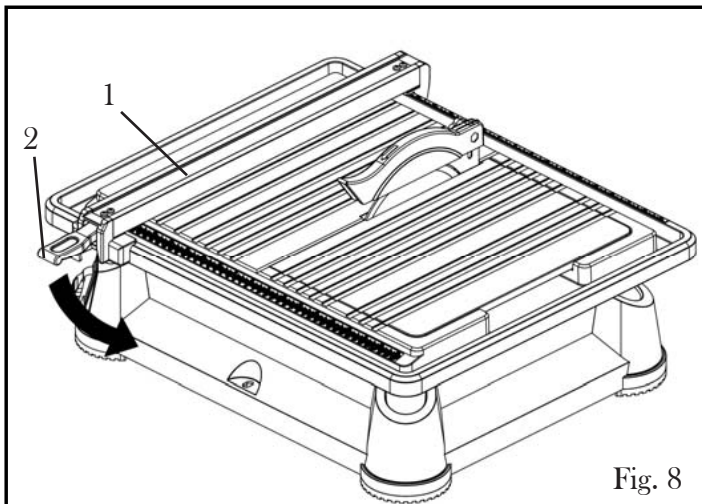

Fig. 8
INSTALLING THE RIP GUIDE (Fig. 8)
1. Place the rip guide (Fig. 8 - 1) onto the saw table, with the locking lever (Fig. 8 - 2) in the unlocked (raised) position.
3. Push the locking lever (Fig. 8 - 2) down to secure the rip guide onto the saw table.